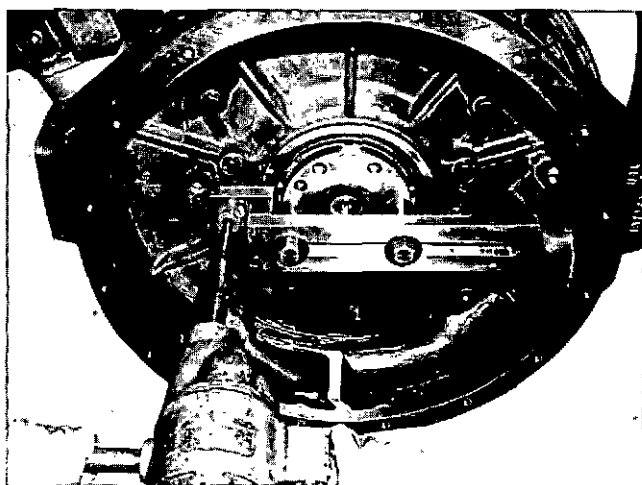

Fig. 14-1-86, V414204. Drill and ream flywheel housing dowel holes
2. If dowels were removed, ream dowel holes in housing and block to nearest oversize, and drive in oversize dowels. Use ST-497 Reaming Jig to drill and ream dowel holes. Fig. 14-1-86.